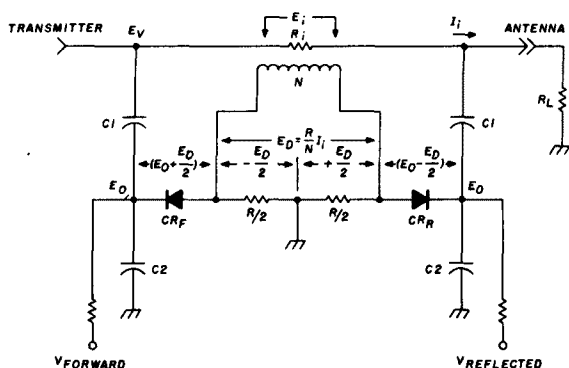

fig. 2. Directional coupler basic circuit.
obtain the desired operation. Reference 1 covers the theory of operation and some considerations for the directional coupler design. I urge you to review this fine article. The basic circuit is shown in fig. 2 and is used to develop the formulas.
**Design example.** To gain a feel for using the formulas, let's work out the values used for the directional coupler in this article. (See the basic circuit, fig. 2). In this case I'm operating the diodes in a peak-detecting mode, so I'll select the diode voltage to be 10 volts rms when the maximum power of 250 watts is applied through the directional coupler. Also I'll select  $R$  to be 50 ohms and the frequency range to be 1.8-30 MHz. These initial design parameters will allow the component values to be calculated.
Dc output voltages  $V_F$  and  $V_R$  are taken from the junction of  $C1$  and  $C2$  (fig. 2). The resistor value or impedance must be high enough not to load  $C2$ , which means the load impedance should be approxi-